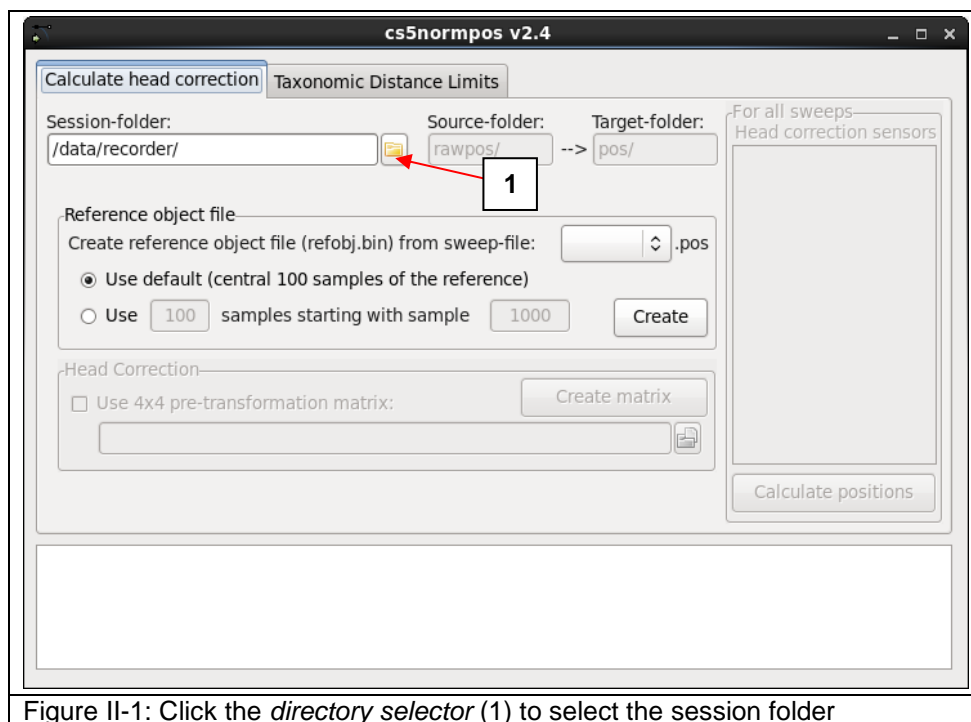
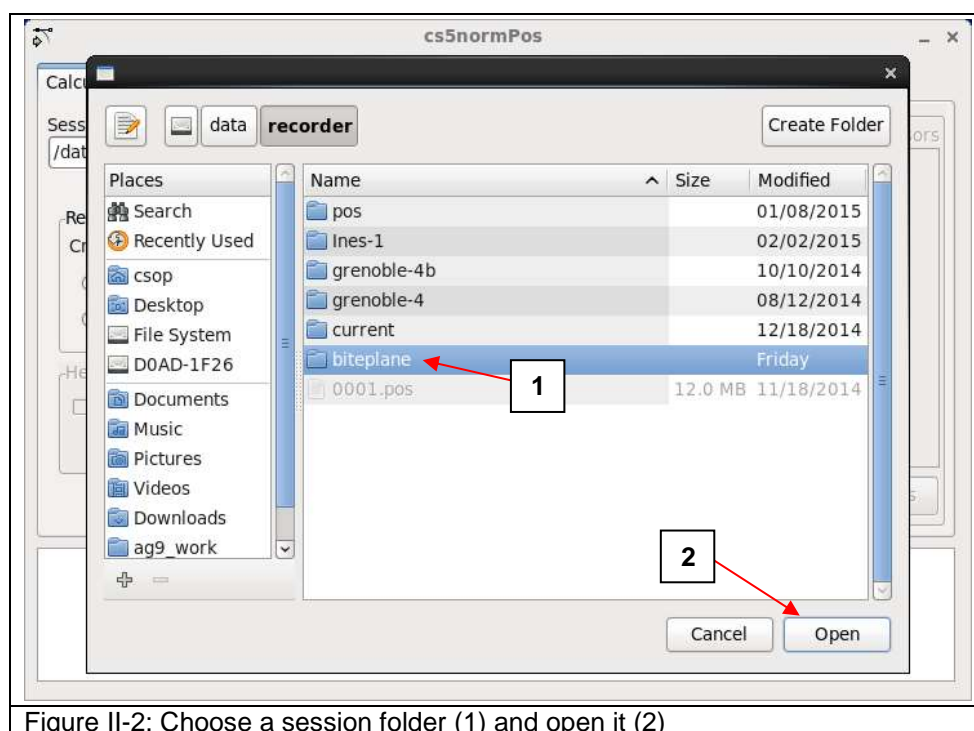

Figure II-1: Click the *directory selector* (1) to select the session folder
Figure II-2: Choose a session folder (1) and open it (2)
- Open the program cs5normpos and choose a session-folder (Figure II-1 and Figure II-2).
- If no reference object file exists choose a sweep and click *Create* (Figure II-1).